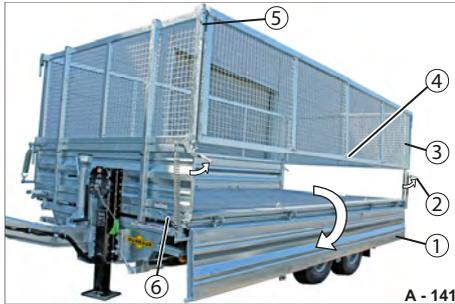

Fig. 147 Base platform gate folded down at the side, steel grate attachment swinging
The central locking system (Fig. 147/6) and the locks of the steel grate attachment (Fig. 147/5) must remain closed!
- ▶ Release the hinges (Fig. 147/4).
- ▶ Unfasten the locks (Fig. 147/2) of the base platform gate.
- ▶ Hold the base platform gate (Fig. 147/1) firmly and fold it down in a slow and controlled manner. The base platform gate hangs on the locking points of the central locking system.
- ▶ Fold up the base platform gate (Fig. 147/1).
- ▶ Fasten the locks of the base platform gate (Fig. 147/2).
- ▶ Secure the hinges (Fig. 147/4) - see page **172**.